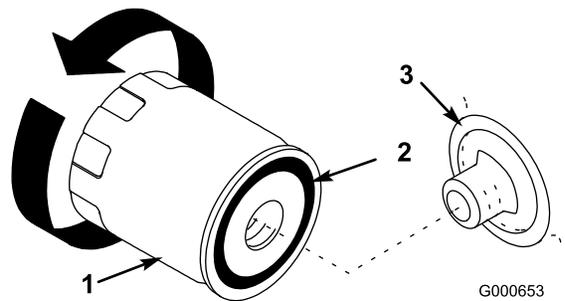

Figure 24
7. Remove the old filter and wipe the filter adapter (Figure 24) gasket surface.
10. Apply a thin coat of new oil to the rubber gasket on the replacement filter (Figure 24).
11. Install the replacement oil filter to the filter adapter. Turn the oil filter clockwise until the rubber gasket contacts the filter adapter, then tighten the filter an additional 1/2 turn (Figure 24).